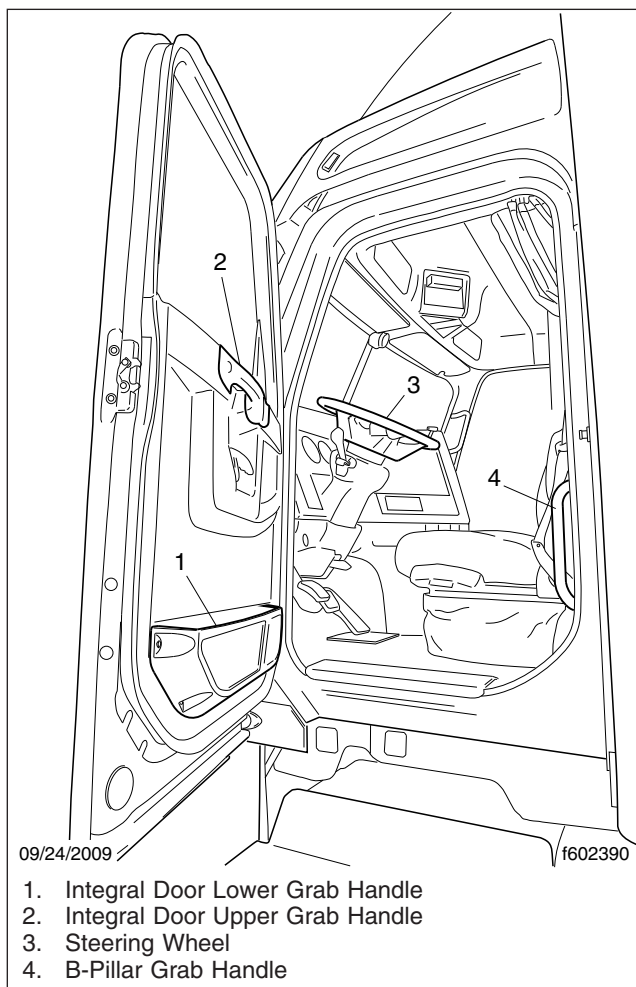

Fig. 2.3, Driver-Side Steps and Grab Handle
2. Using both hands, grasp the grab handle that is on the B-pillar, or use your left hand on the integral door lower grab handle. See Fig. 2.3. Reach up as far as is comfortable.